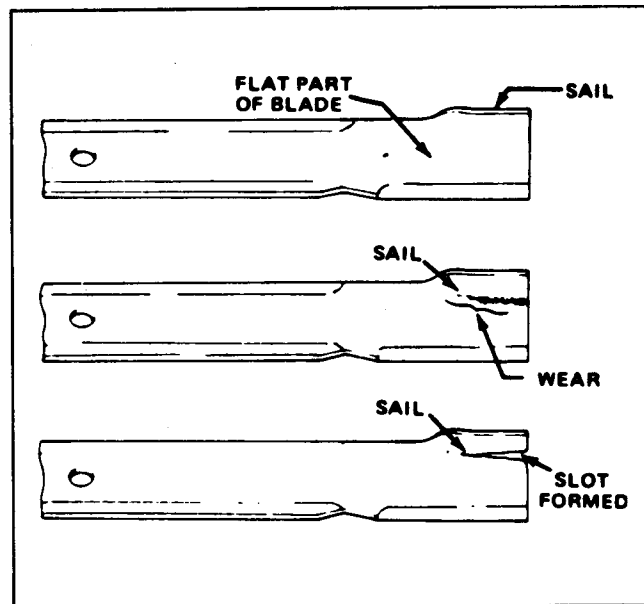

Figure 7
1. Examine the sails of the blades, especially where the flat and curved parts of the blade meet (Fig. 7). Since sand and abrasive material can wear away the metal between the flat and curved parts of the blade, check the blade before using the machine. If any wear is noticed, replace the blade.
If the blade is allowed to wear, a slot will form between the sail and flat part of the blade (Fig. 7). Eventually, a piece of the blade may break off and be thrown from under the housing. This could result in serious injury to yourself or a bystander.